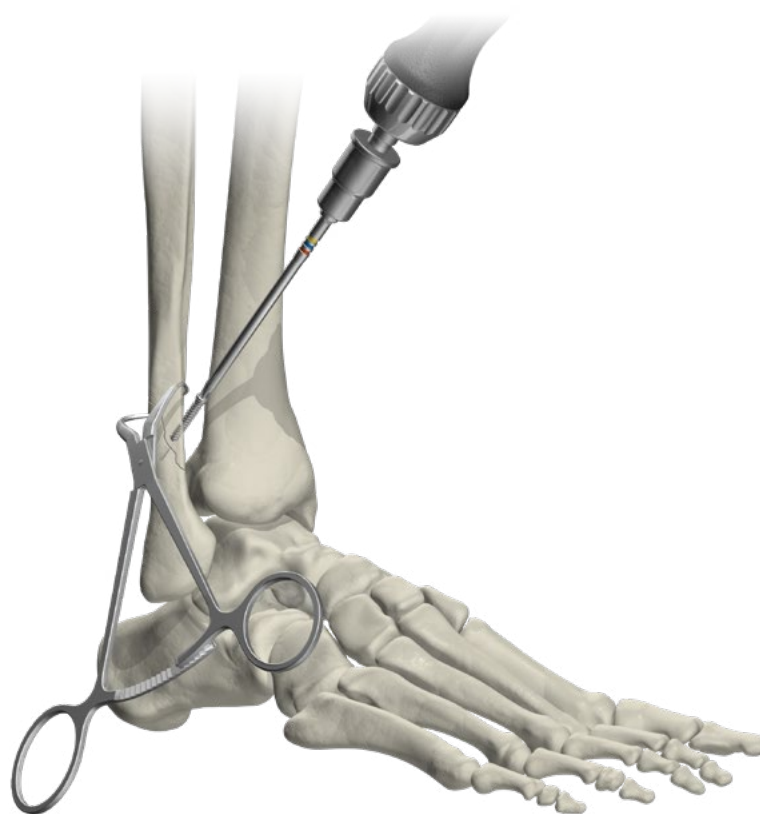

FIGURE 3
3. Measure the screw length utilizing the provided Arsenal Ankle Depth Gauge (FIGURE 3). Select desired 3.5mm screw length. Insert screw into the pilot hole and drive into position rotating clockwise with the driver.